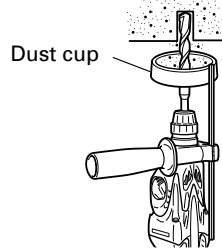
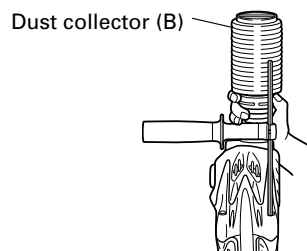

Fig. 4
Fig. 5
## 7. Installation of dust cup or dust collector (B) (Optional accessories) (Fig. 4, Fig. 5)
Use the dust cup by attaching to the drill bit as shown in Fig. 4.
When using dust collector (B), insert dust collector (B) from the tip of the bit by aligning it to the groove on the grip (Fig. 5)